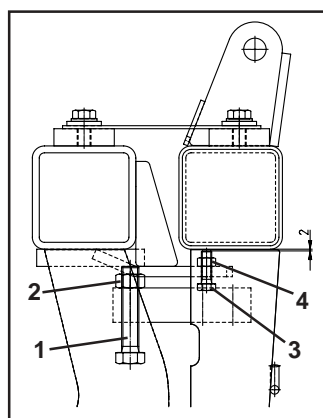

Fig. 9.8
You will find the micrometer gauge (Fig. 9.8/1) in the middle underneath the frame of the spreader inside the weighing cell.
- Slacken the counter nut (Fig. 9.8/2)
- Re-adjust the micrometer gauge (Fig. 9.8/1)
- Retighten the counter nut (Fig. 9.8/2)
Set the locking bolts (Fig. 9.8/3) with a tolerance of 2 mm.
- Slacken the counter nut (Fig. 9.8/4)
- Adjust the locking bolts (Fig. 9.8/3)
- Retighten the counter nut (Fig. 9.8/4)